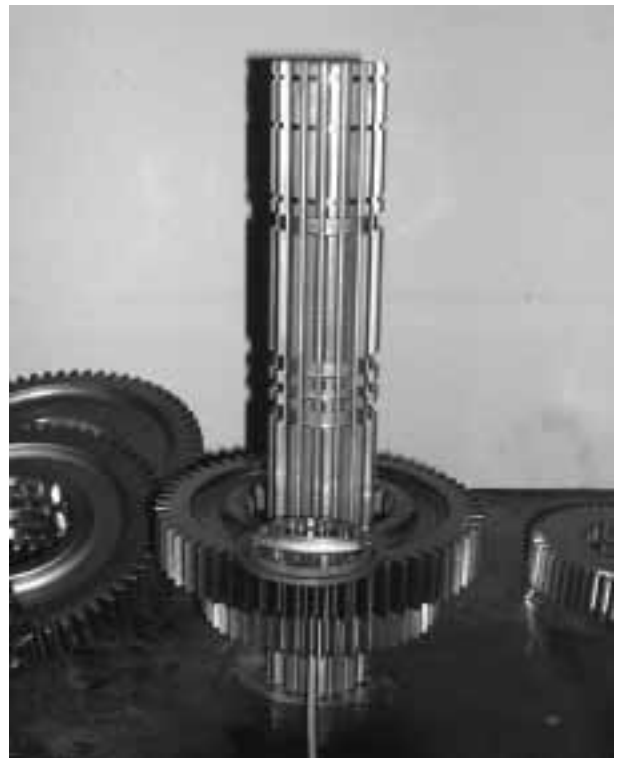

Figure 56 – Fitting 3rd Gear
- d. Install the 3rd gear onto the shaft against the spacer washer with the clutching teeth up (refer to Figure 56).